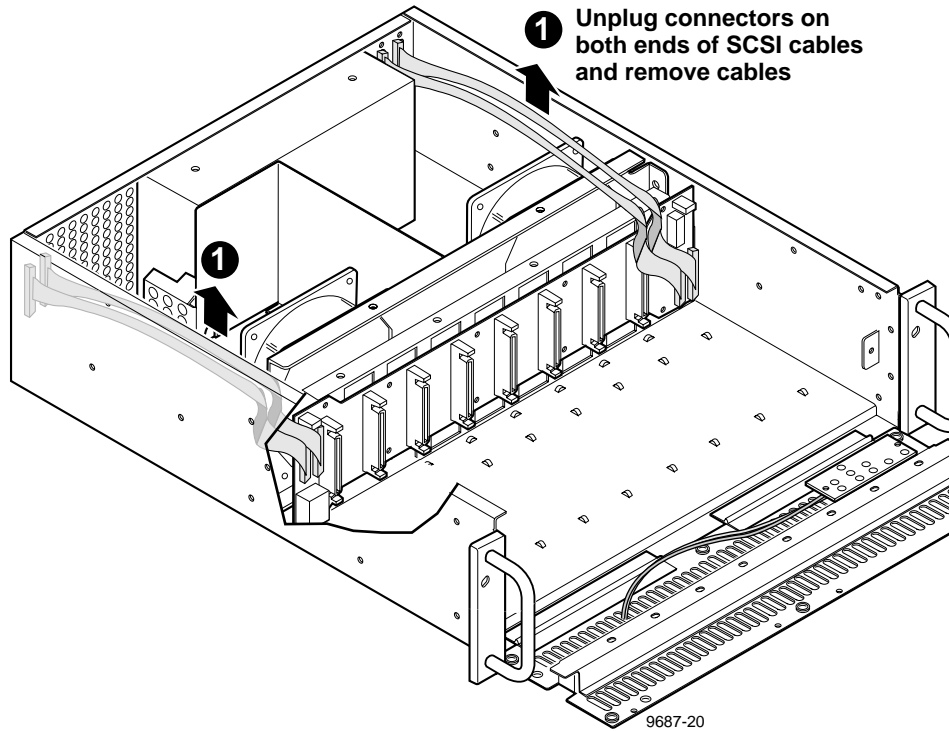

Figure 3-10. Removal of a SCSI Cable
Internal SCSI cables (item 9 in Table 3-1) connect from two connectors on each side of the SCSI Distribution board to the two rear panel SCSI connectors on the same side of the chassis. Figure 3-10 shows removal of an internal SCSI cable.
5. Disconnect the bad SCSI cable connector from the SCSI Distribution board (Figure 3-10).
1. Connect the SCSI cable from the appropriate rear panel connector to the appropriate SCSI connector on the SCSI Distribution board (Figure 3-10).